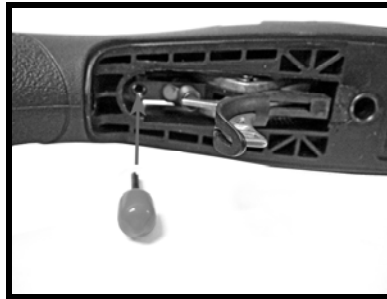

FIGURE 19
2. Insert the ACCUTRIGGER supplied tool into the bottom of the trigger as shown in FIGURE 19; engaging the spring-tail with the slot on the tool.